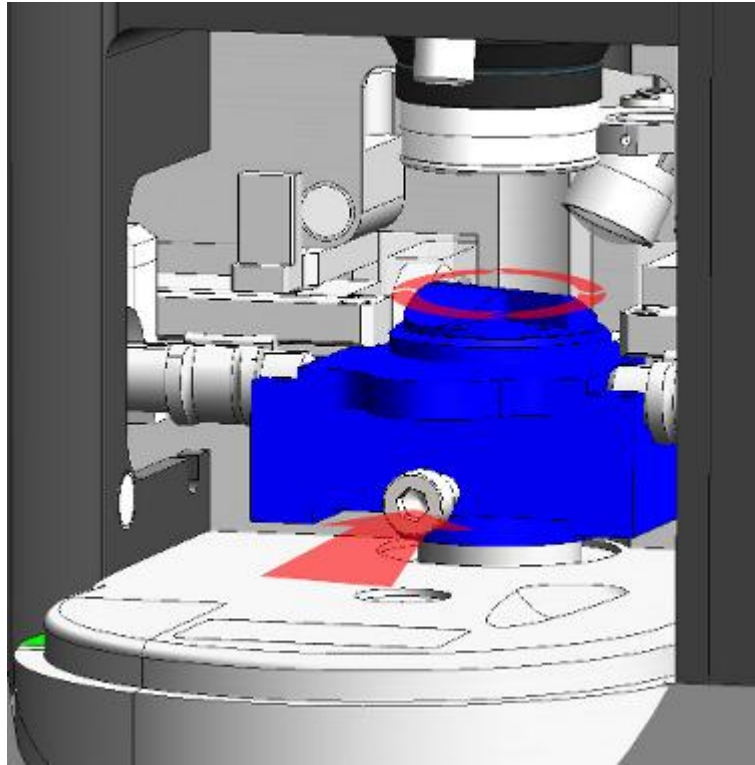

Fig. 2-9
3. Screw the threaded cap until it touches the scanner. Secure the bracket on the bottom of the scanner with a screw M5 (Fig. 2-9).